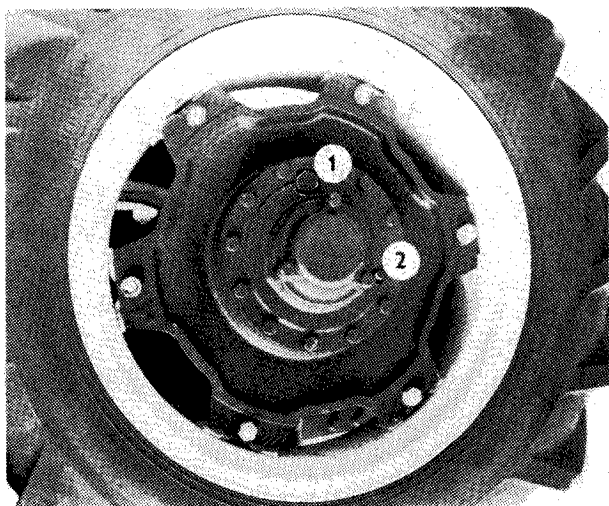

Fig. 16
- 20. Reducer oil filling hole (Fig. 16/1).
- 21. Reducer oil drain plug (Fig. 16/1).
- 22. Reducer oil check hole (Fig. 16/2).